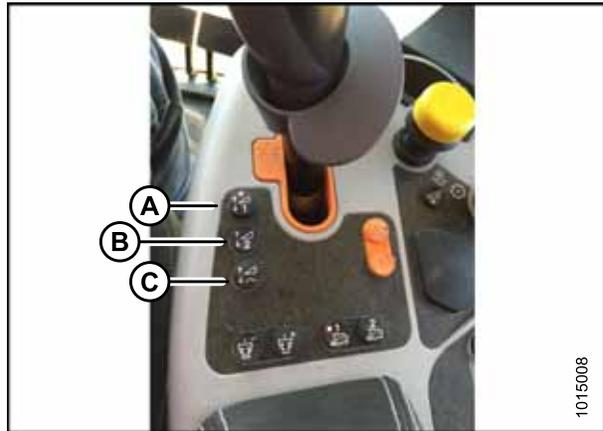

Figure 5.281: New Holland Combine Controls
5. Select one of auto height set point buttons shown in Figure 5.281, page 268.